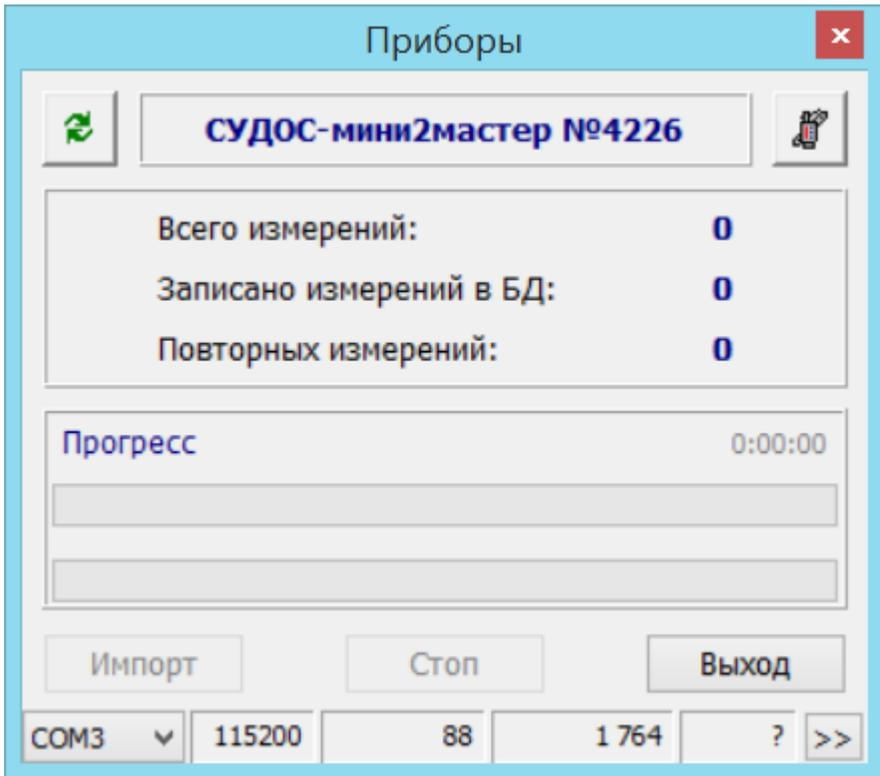

Figure 10
4) In the computer database, start the import procedure. Select the number of COM port corresponding to the connected USB. In the example it is COM3 (see Figure 10).